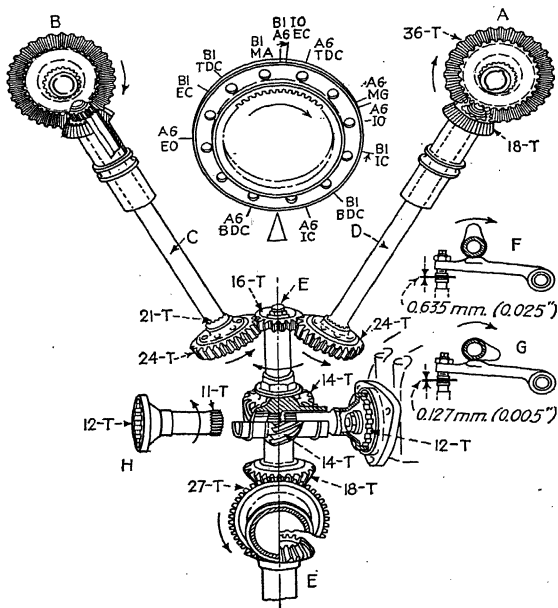

FIG. 43.—Diagram of valve gearing to be used in timing engine.
Figure 43 shows, diagrammatically, the timing gear layout as viewed from the rear of the engine. It also shows
Two timing positions will be seen on the disk, namely, A6 M.A., and B1 M.A., and either may be used, but each distributor must be set accordingly (see Figs. 43 and 45). For example, if mark A6 is used, the distributor pointer of each magneto must be set pointing to the A6, or, alternatively, at contacts B1 if position B1 is used.
**Magneto Timing.**—It will be seen from Fig. 43 that each magneto is driven by a separate shaft *H* from a gear coupled to the crankshaft. It is only necessary, therefore, to set the crankshaft in the correct position and relationship to valves, since the shafts *H* have 11 and 12 driving serrations, thereby allowing a vernier adjustment when engaging the magnetos.